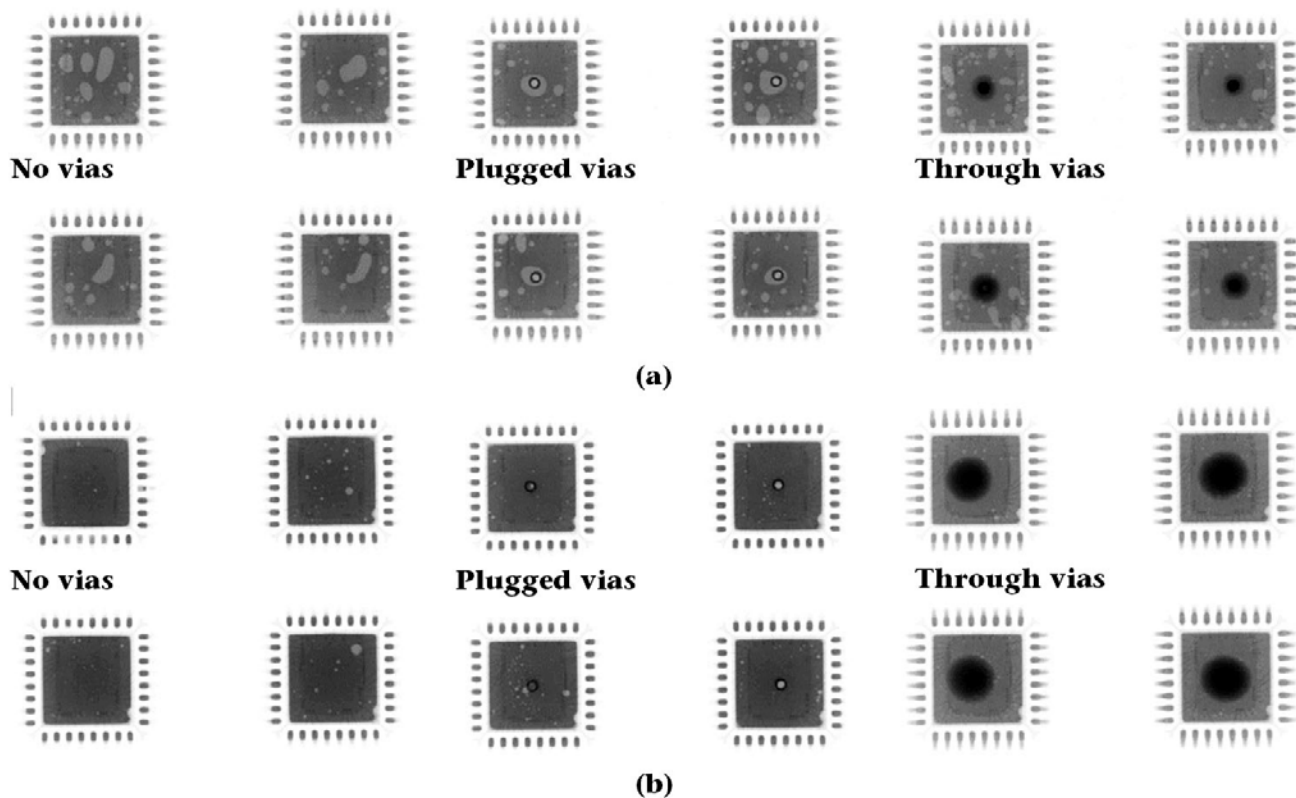

Figure 12: X-ray images of different via design the medium QFN components assemblies built with (a) SPO and (b) PF+paste with different via design.
bottom termination components, especially for QFN packages that have a thermal pad to conduct heat away from the integrated circuit (IC). Excess voiding will increase the thermal resistance of the thermal interface. It is common practice to design pad and vias to increase propensity for volatiles to escape during reflow process to minimize voiding under the BTC. X-ray images of the assemblies built with SPO and PF + paste configurations are shown in Figure 12. Again, the same consistency between voiding of the assemblies was observed when PF + paste was examined. For plugged vias, voiding was observed around vias. As it was stated earlier, curvature in the solder resist might be contributing factor in higher voiding in the via area. Much lower and smaller voids were observed with PF + paste configuration.